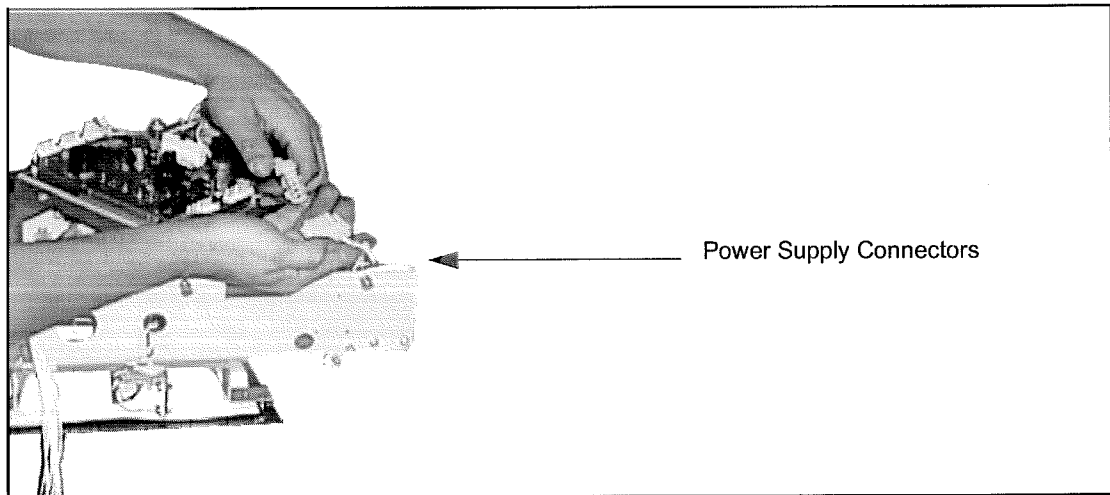

Figure 2-9 Securing Power Supply Connectors
3. Secure connectors in appropriate connections from the power supply to the DEM frame. See Figure 2-9.